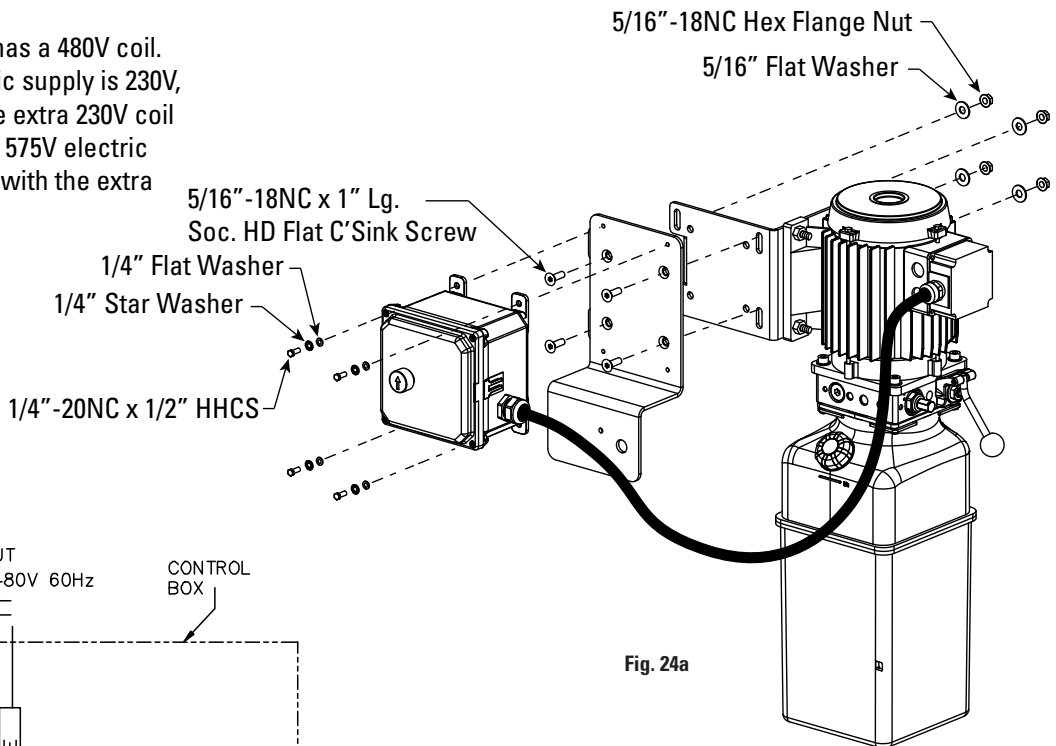

Fig. 24a
- A. Attach Mounting Bracket to the Power Unit Bracket using (4) 5/16"-18NC x 1" Lg. Soc HD Flat C'Sink Screws, (4) 5/16" Flat Washers, and (4) 5/16"-18NC Hex Flange Nuts, Fig. 24a.
- B. Attach Control Box to Bracket using (4) 1/4"-20NC x 1/2" HHCS, (4) 1/4" Flat Washers, and (4) 1/4" Star Washers. Fig. 24a.